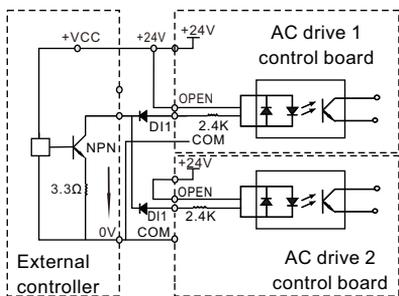

Figure 3-22 DI terminals connected in parallel in SINK mode
- + In this In such wiring mode, the DI terminals of different AC drives cannot be connected in parallel. Otherwise, DI mal-function may result. If parallel connection (different AC drives) is required, connect a diode in series at the DI and the diode needs to satisfy the requirement: $IF > 10\text{mA}$, $UF < 1\text{V}$. As shown in Figure 3-22.